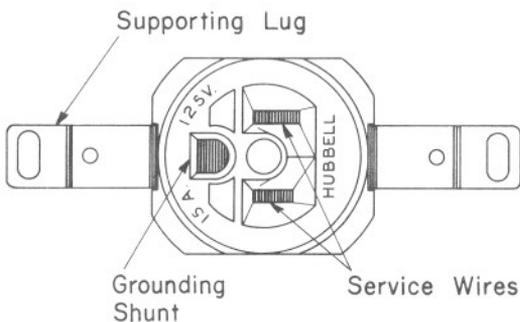
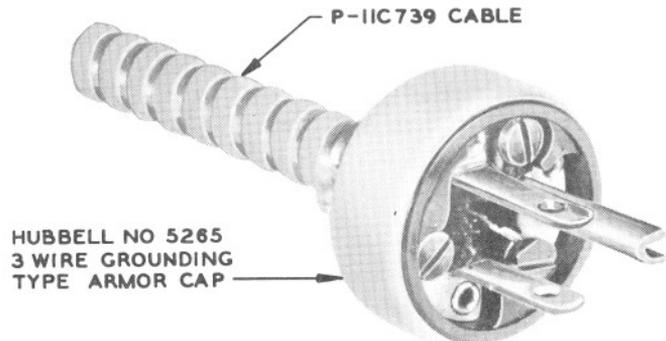

Fig. 4 — Hubbell No. 5261, 3-wire Grounding-type Convenience Outlet
Fig. 5 — Hubbell No. 5265, 3-wire Grounding-type Armor Cap
5.07 When a 3-wire grounding-type convenience outlet such as the Hubbell No. 5261 type is used (see Fig. 4), use a P-11C739 cable which is equipped with a Hubbell No. 5265, 3-wire grounding-type armor cap (see Fig. 5).